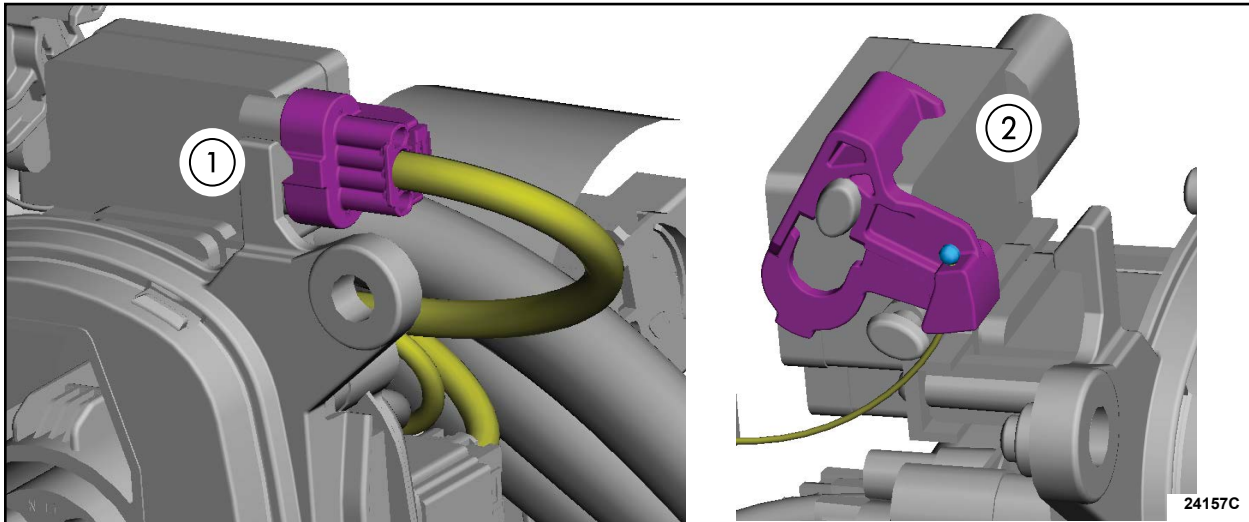

FIGURE 3
4. Disconnect the electrical connector from the charge cord lock release actuator (1). Detach the cable from the charge cord lock release actuator (2). See Figure 3.